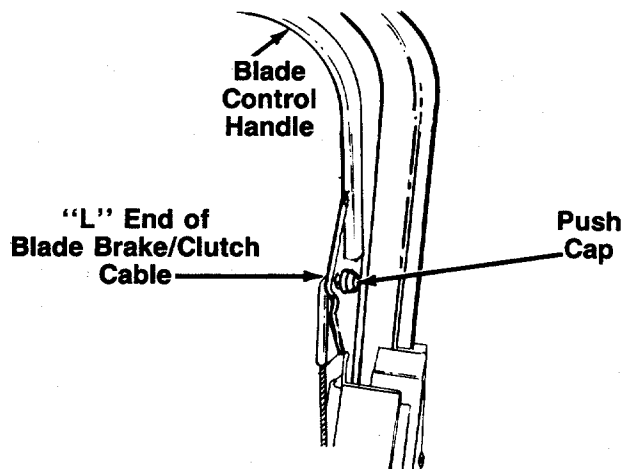

FIGURE 4.
3. Insert the "L" end of the blade brake/clutch cable into the hole in the blade brake/clutch control handle, from the inside to the outside as shown in ← figure 4. Hold the end of the cable, and press push cap on by hand.